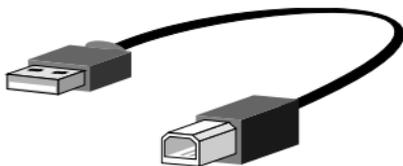

Figure 2. USB A-B cable
- One USB A-B cable with Type-A and Type-B plug for USB devices, as shown in Figure 2.